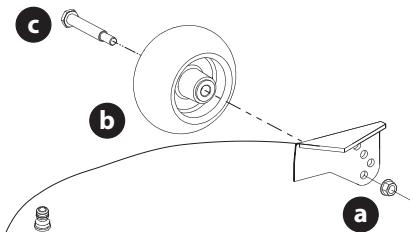

Figure 12
- Remove the lock nut (a), gauge wheel (b) and shoulder screw (c) from the deck (Figure 12).
- Insert the shoulder screw (c) into one of four index holes on the deck wheel bracket. Allow a 1 1/4-1/2 inch (6.35-12.7 mm) clearance between the ground and gauge wheel (Figure 12).